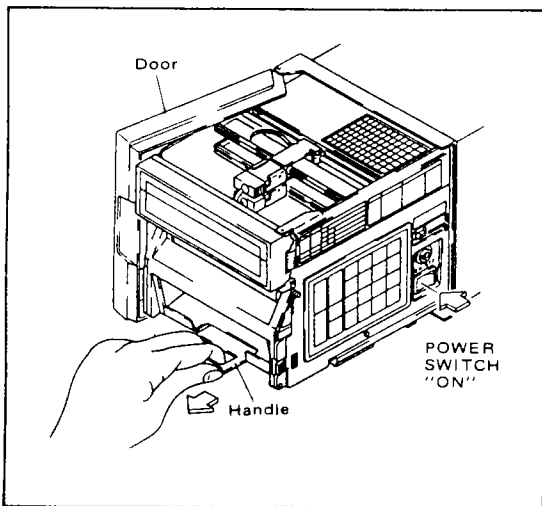

Figure 5-15.
- (1) Open the unit front door by inserting fingertips into the recessed area on the right side near the front and pull outward. Grasp the internal unit handle located at the lower front of the unit and pull the internal assembly as far out as possible. (See Figure 5-15.)
- (2) Switch power on by pressing the "POWER" switch to the "ON" position. Note that the stored program may be erased if the battery is replaced with the "POWER" switch set to OFF. The power switch is located on the right side of the extended unit next to the key pad and just under the key lock. (See Figure 5-15.)